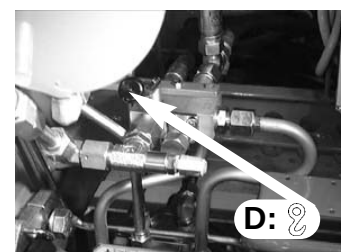

fig. 20a
- Lever **D** Deviator crane - outriggers (⌘ - E/S). Fig. 20a-20b
- Unfold the crane into a working condition, positioning lever **D** of oil diverter crane-outriggers ( - **E/S**) on  **E/S**. Fig. 20a